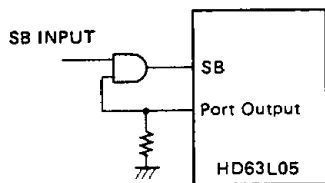

Figure 32 Example of inhibiting SB input signal
S.B. input signal should be gated according to the program which makes LSI idle. (Fig. 32).